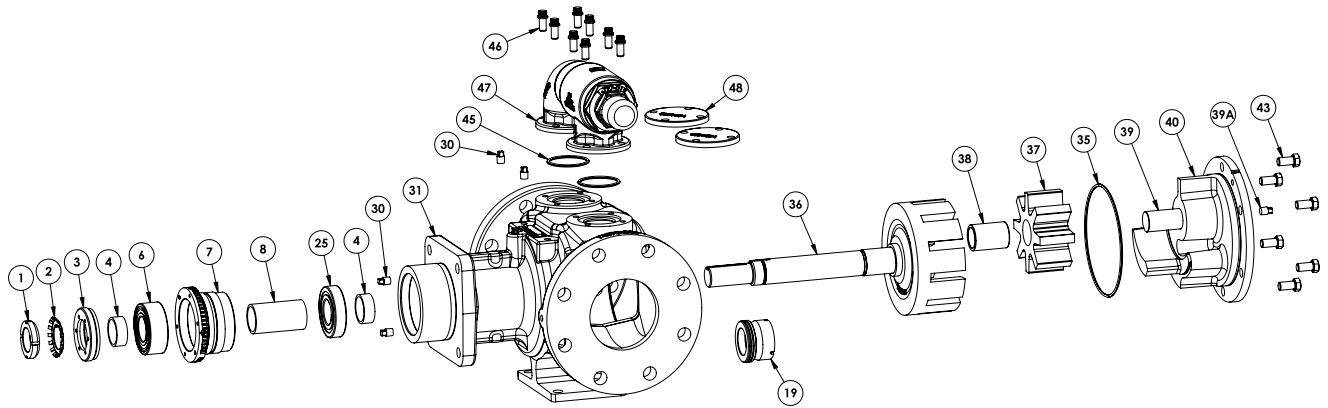

FIGURE 4 - EXPLODED VIEW FOR MODELS KE, KKE, LQE, LSE 4195
1. Refer to **Figures 4 & 5** for model to be disassembled and name of parts. All 4195 models referenced in this TSM are disassembled and assembled in the same manner.